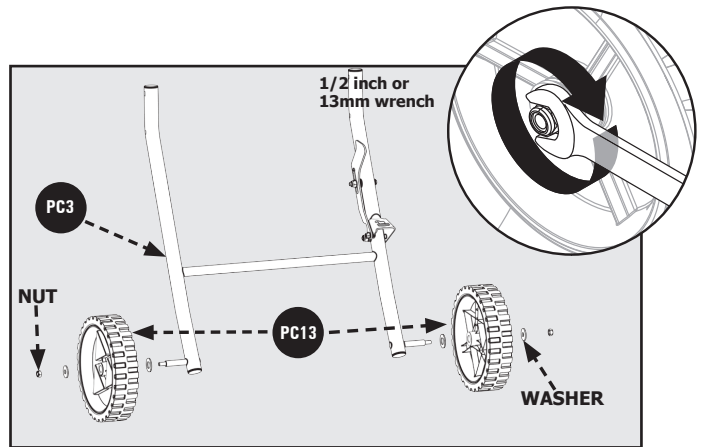

Figure 2
1. Using the 13mm Combination Wrench (Not Provided), first remove Nut and outer Washer on each side of the Pedal Assembly (PC3). Then attach the Wheels (PC13) and place the Washer and Nut back on each side, see Figure 2. Be sure not to over-tighten the Nut.